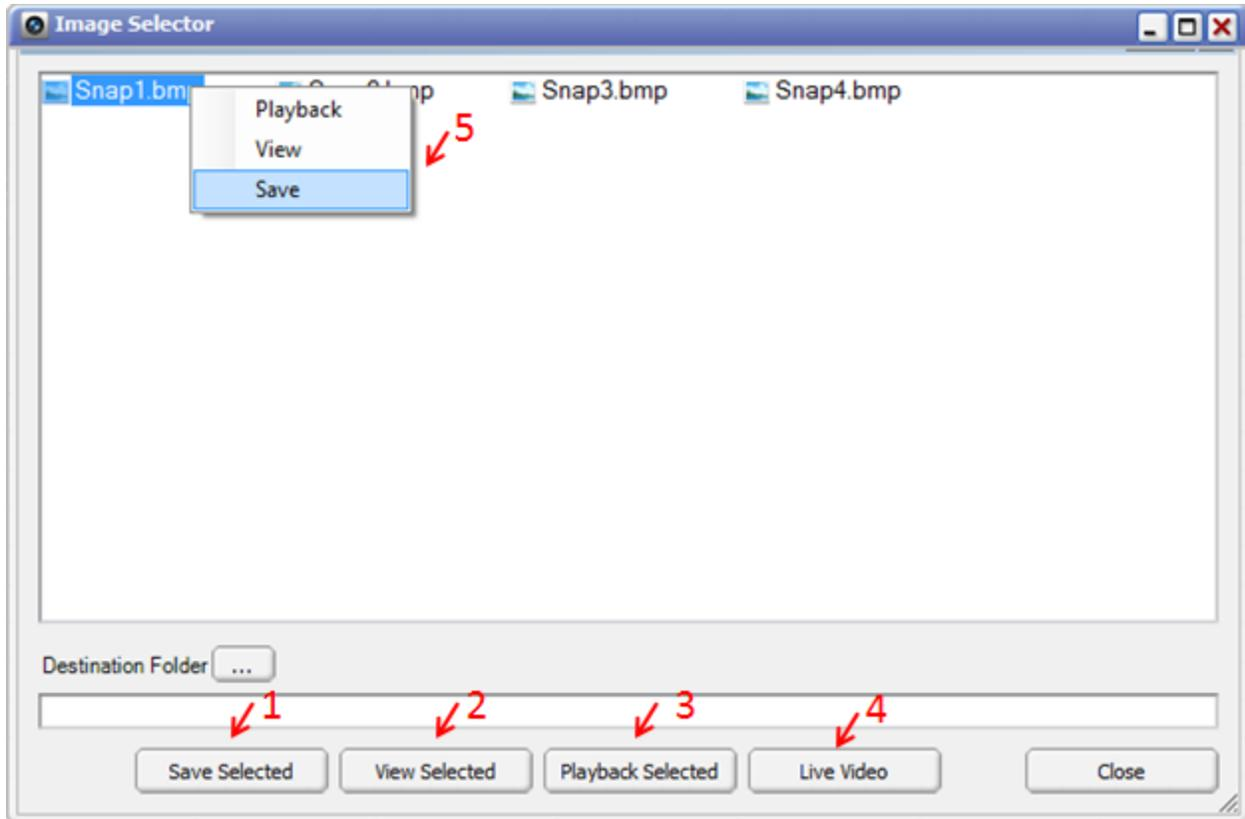

Figure 4 – 8-bit Snapshot Management
Once selecting the “Manage Snapshots” button, the Image Selector window will appear displaying the snapshots sequentially, as shown in Figure 4. Note that a snapshot must be selected (highlighted) to enable the buttons at the bottom of the pop-up window which allow saving, viewing, and playing back the stored snapshots. For convenience, once in the Image Selector window, the snapshots can be selected with either a mouse-click or the user’s arrow keys.
- Select the snapshot and use the “Save Selected” button from the Image Selector window (Figure 4, #1)
- Right-click on the snapshot in the Image Selector window and a select “Save” from the drop-down list (Figure 4, #5)
- Select the “View Selected” button (Figure 4, #2) in the Image Selector window
- Right-click on the snapshot and select “View” from the drop-down list (Figure 4, #5)
It is also possible to playback a specific snapshot on the analog video output of the camera. From the Image Selector window, select the desired snapshot and select the “Playback Selected” button (Figure 4, #3). Right-clicking on the desired snapshot and selecting “Playback” from the drop-down list (Figure 4, #5) will also result in snapshot playback.
The desired snapshot will be displayed on the analog video for an unlimited amount of time. To return the analog video to live imaging, select the “Live Video” button (Figure 4, #4) from the Image Selector window.